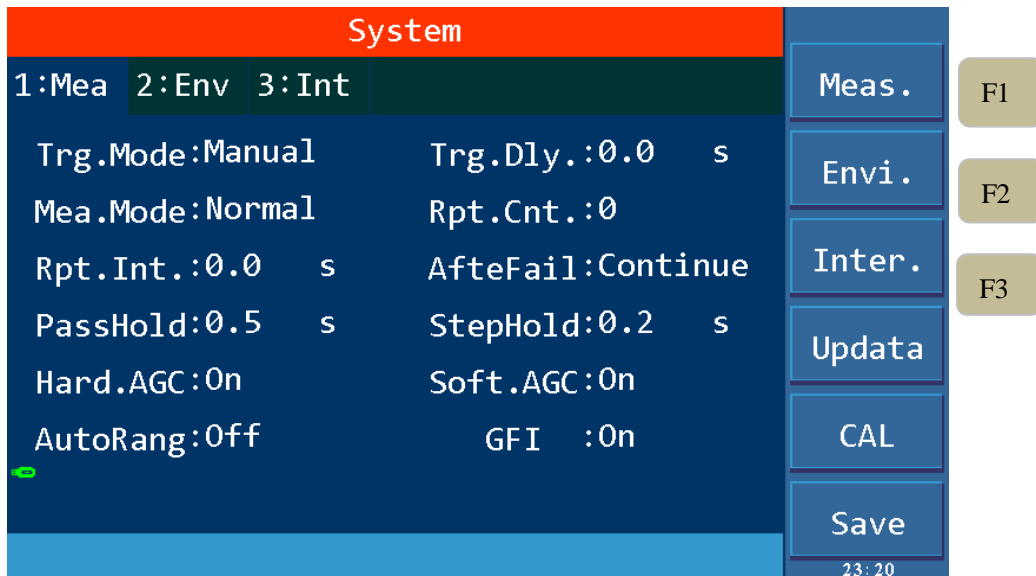

Figure 4-2 SYSTM Test Parameter Settings
1. Press `[[SYSTEM]]` key to enter the system setting interface shown in Figure 4-2.
Test related parameters setting in SYSTEM are shown in Figure 4-2:
1. Press [SYSTEM] to enter the system setting interface shown in Figure 4-2.
1. Press `[[SYSTEM]]` to enter the system setting interface shown in Figure 4-2.